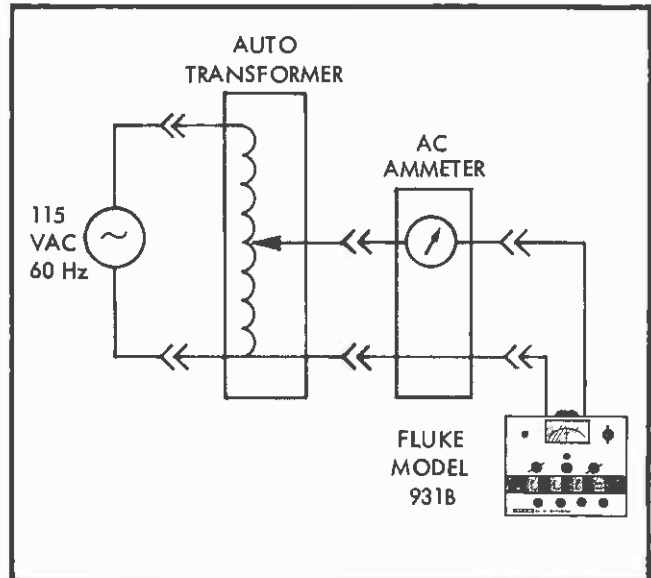

Figure 4-13. POWER SUPPLY TESTS EQUIPMENT CONNECTIONS
- a. Remove the upper rear dust cover and side panels from the Model 931B and make the equipment connections illustrated in Figure 4-13.
- g. Set the ratio transformer controls to provide an output voltage of 0.010 volts rms, and again observe the signals present at TP12, TP21 and TP 24 with an oscilloscope. The peak-to-peak signal levels should be 1/10 of the values illustrated in Figure 4-13.